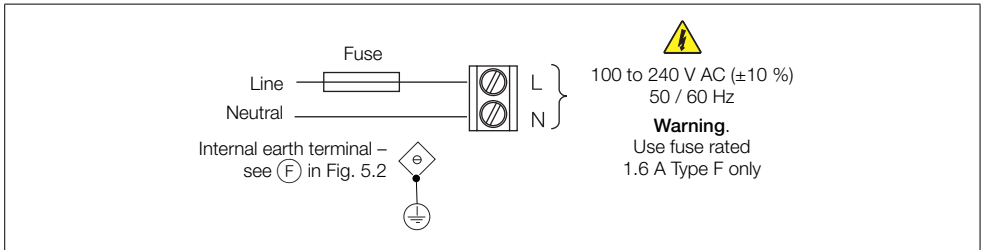

Fig. 5.1 AC Power Supply Connections
- The transmitter is not fitted with a switch therefore a disconnecting device such as a switch or circuit breaker conforming to local safety standards must be fitted to the final installation. It must be fitted in close proximity to the transmitter within easy reach of the operator and must be marked clearly as the disconnection device for the transmitter – see Fig. 5.1, page 19.